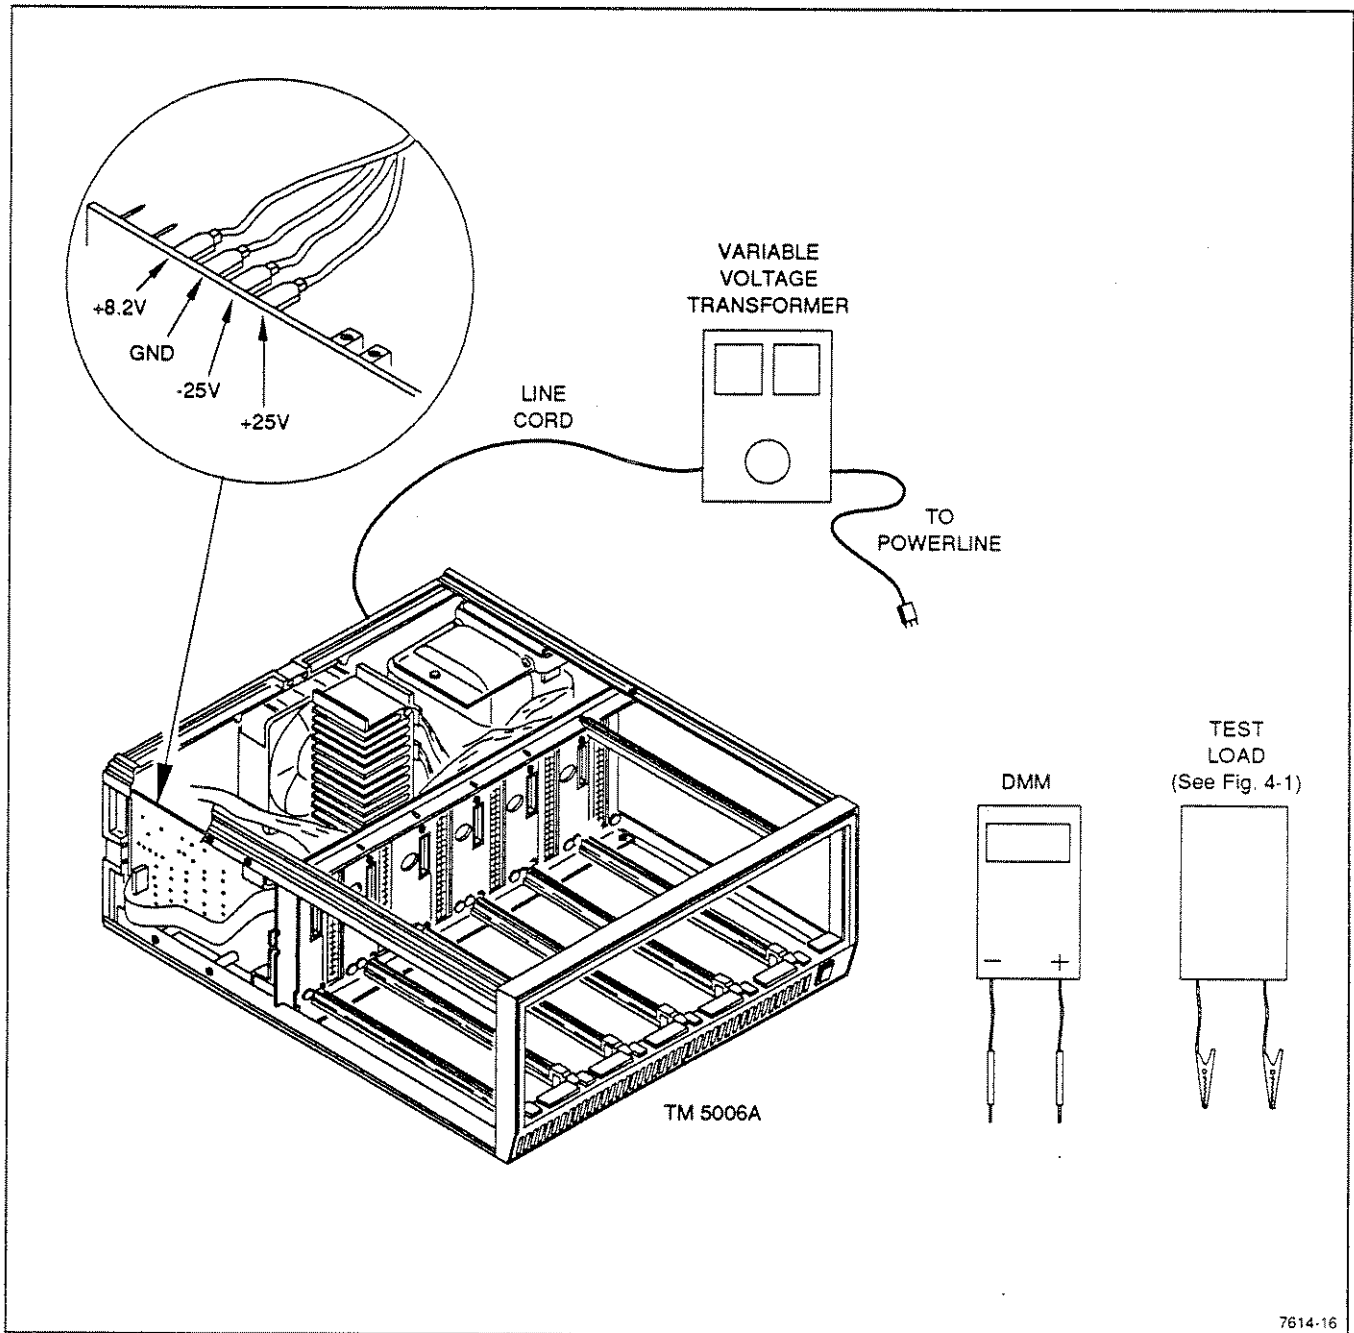

Fig. 4-2. Performance check setup.
Remove the top cover to gain access to the supply buses. Figure 4-2 shows the test point locations.
- Connect the test equipment as shown in Figure 4-2. Set the Variable Voltage Transformer line voltage for 10% below the nominal line voltage. (Nominal line voltage is the line voltage the instrument is set to operate on.)
- Connect a 4  $\Omega$  test load and the DMM between the +25 V supply and ground terminals shown in Figure 4-2.
- Connect the test equipment as shown in Figure 4-2. Set the Variable Voltage Transformer line voltage for 10% below the nominal line voltage.
- Connect a 4  $\Omega$  test load and the DMM between the -25 V supply and ground terminals shown in Figure 4-2.
- Connect a 0.46  $\Omega$  test load and the DMM between the +8.2 V supply and ground terminals shown in Figure 4-2.
- b. Connect a 0.46  $\Omega$  test load and the DMM between the +8.2 V supply and ground terminals shown in Figure 4-2.